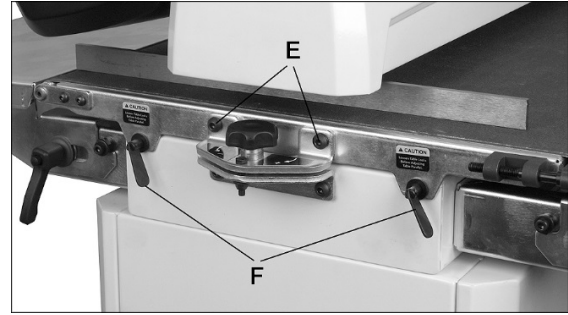

Figure 10-3
5. Remove two (2) screws that attach conveyor table to base.
6. Remove two (2) screws that attach conveyor table to drum alignment bracket (E, Figure 10-3).
7. Loosen two locks (F).